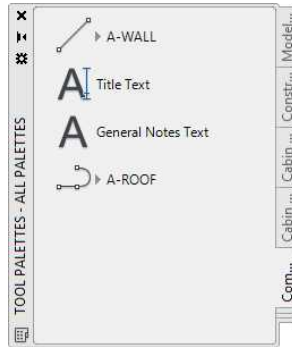

FIGURE 11.35: The Commands palette with four command icons
9. Repeat the process outlined in steps 5 through 8 to drag several additional objects of various kinds onto the Commands palette (see Figure 11.35).